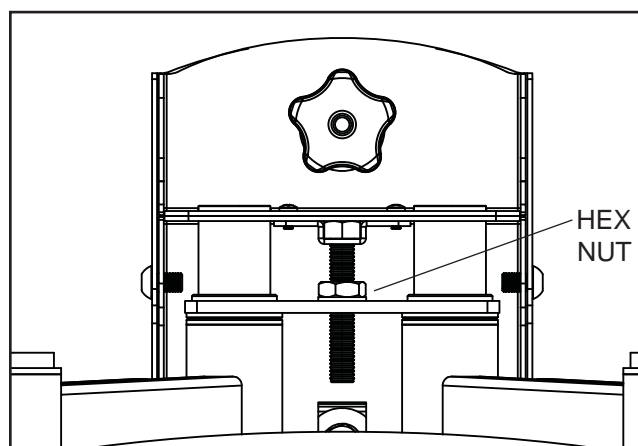

fig 10.1
- To raise screen, turn hex nut shown in figure 10.1 clockwise with 3/4" open-end wrench (not provided).
- To lower screen, turn hex nut shown in figure 10.1 counterclockwise with 3/4" open-end wrench (not provided).